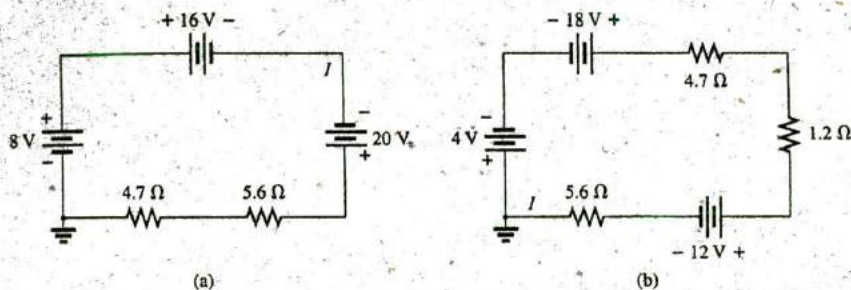

FIG. 5.103
19. Determine the current *I* and its direction for each network in Fig. 5.103. Before solving for *I*, redraw each network with a single voltage source.